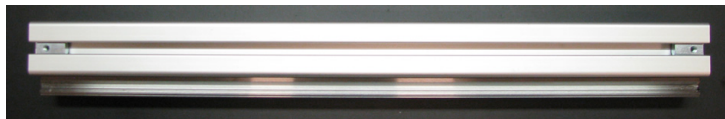

Figure 2.5:
- orient the 40x40L profile with the rails oriented towards yourself, see figure 2.5.
- Slide a M5 T-nut into each end of the 40x40L profile, with the threaded holes oriented close to each end, see figure 2.5.